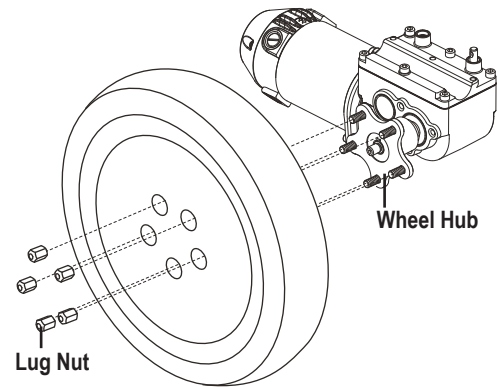

Figure 17. Drive Wheel
4. Remove the five (5) lug nuts from the wheel hub. **See figure 17.**